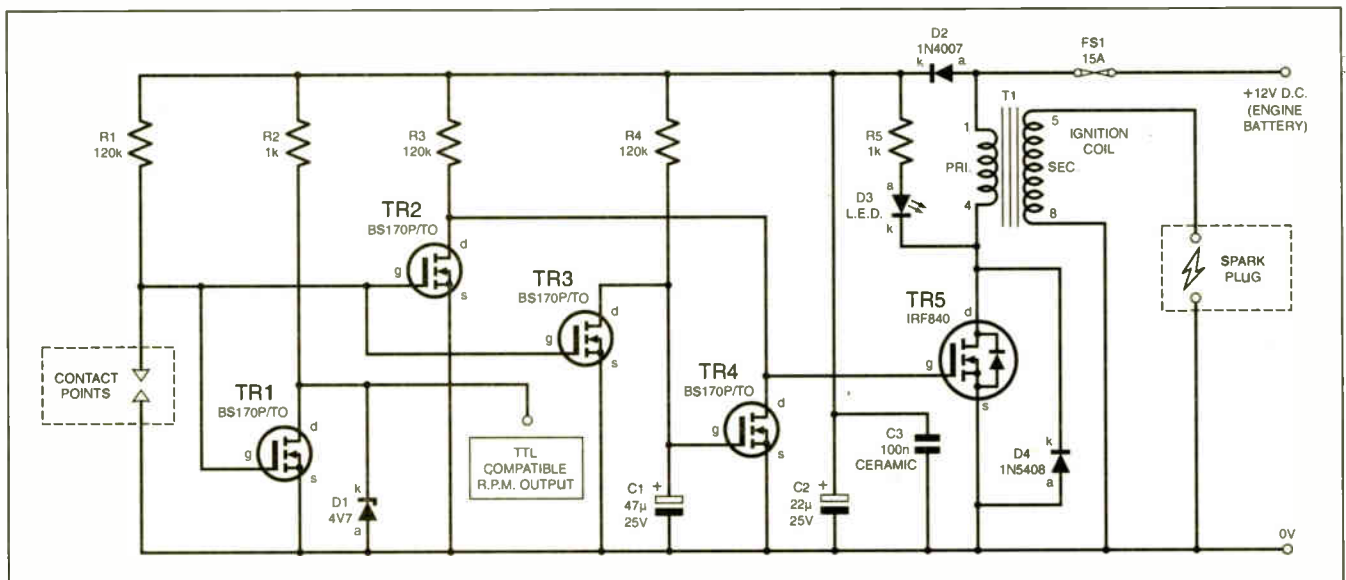

Fig. 1. Circuit diagram for a Single-Cylinder Ignition.
**T**HE circuit diagram shown in Fig. 1 is for an electronic ignition circuit for a single-cylinder engine, and was created when the magneto ignition coil on a 5hp lawnmower engine failed in open-circuit mode. It functions as follows: 12V is fed from the engine's battery to the original contact points via diode D2 and resistor R1. When the points are closed, the gate (g) of TR2 is held at 0V which allows the gate of power MOSFET TR5 to be pulled up to +12V, thereby allowing current to flow through the primary winding of the engine's ignition coil T1.